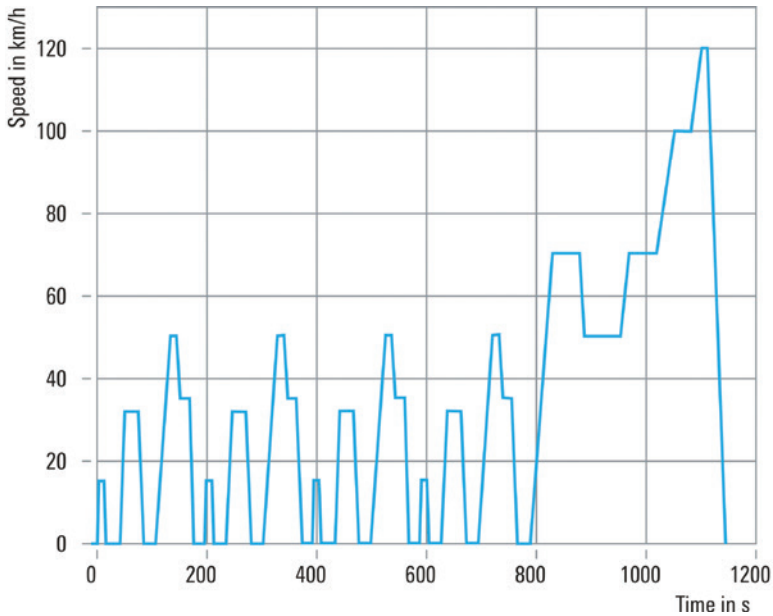

Figure 6: The urban driving cycle speed profile under the NEDC
Setting these dynamic speed (rpm) and torque (Nm) conditions on an EUT has grown in complexity. In the past, it was possible to run EMC test software on a vehicle that was simply running at a constant speed. However, this is not sufficient for accurately characterizing a vehicle's emissions. Now, more complex speed profiles or driving cycles (DC) are used for vehicle energy simulation and evaluation with standard profiles such as the worldwide harmonized light vehicle test cycle (WLTC) and new European driving cycle (NEDC) for Europe and 10 mode (J10) for Japan (Figure 6).